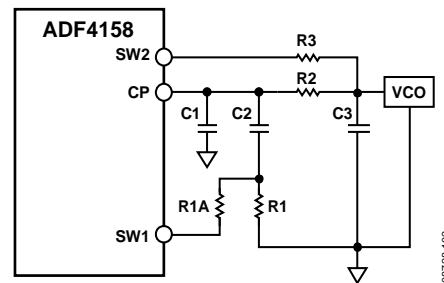

Figure 47. Fast-Lock Loop Filter Topology—Topology 2
- Connect an extra resistor (R1A) directly from SW1 (see Figure 47). The extra resistor must be selected such that the parallel combination of an extra resistor and the damping resistor (R1) is reduced to 1/4 of the original value of R1.